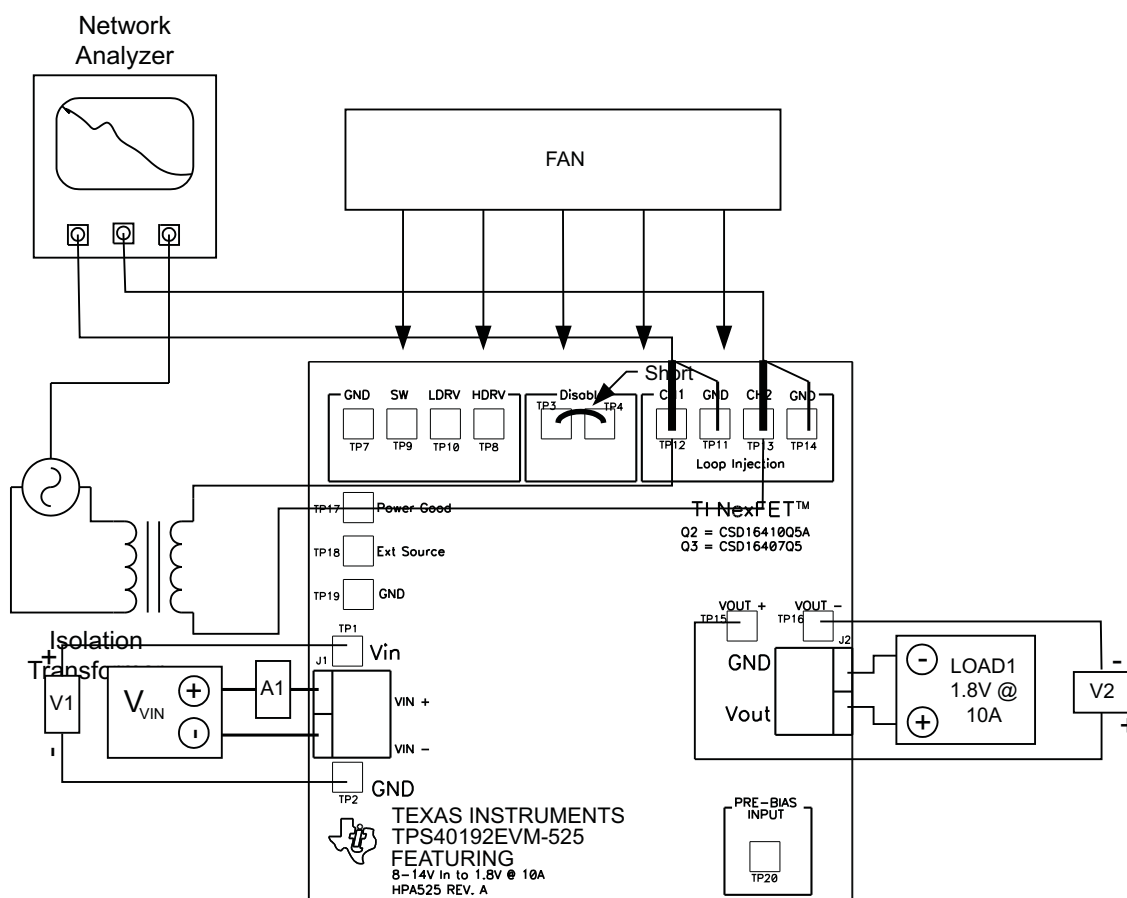

Figure 4. Control Loop Measurement Setup
1. Connect a 1-kHz to 1-MHz isolation transformer to TP12 and TP13 as shown in Figure 4.
2. Connect the input signal amplitude measurement probe (channel A) to TP12 as shown in Figure 4.
3. Connect the output signal amplitude measurement probe (channel B) to TP13 as shown in Figure 4.
4. Connect the ground lead of channel A and channel B to TP11 and TP14 as shown in Figure 4.